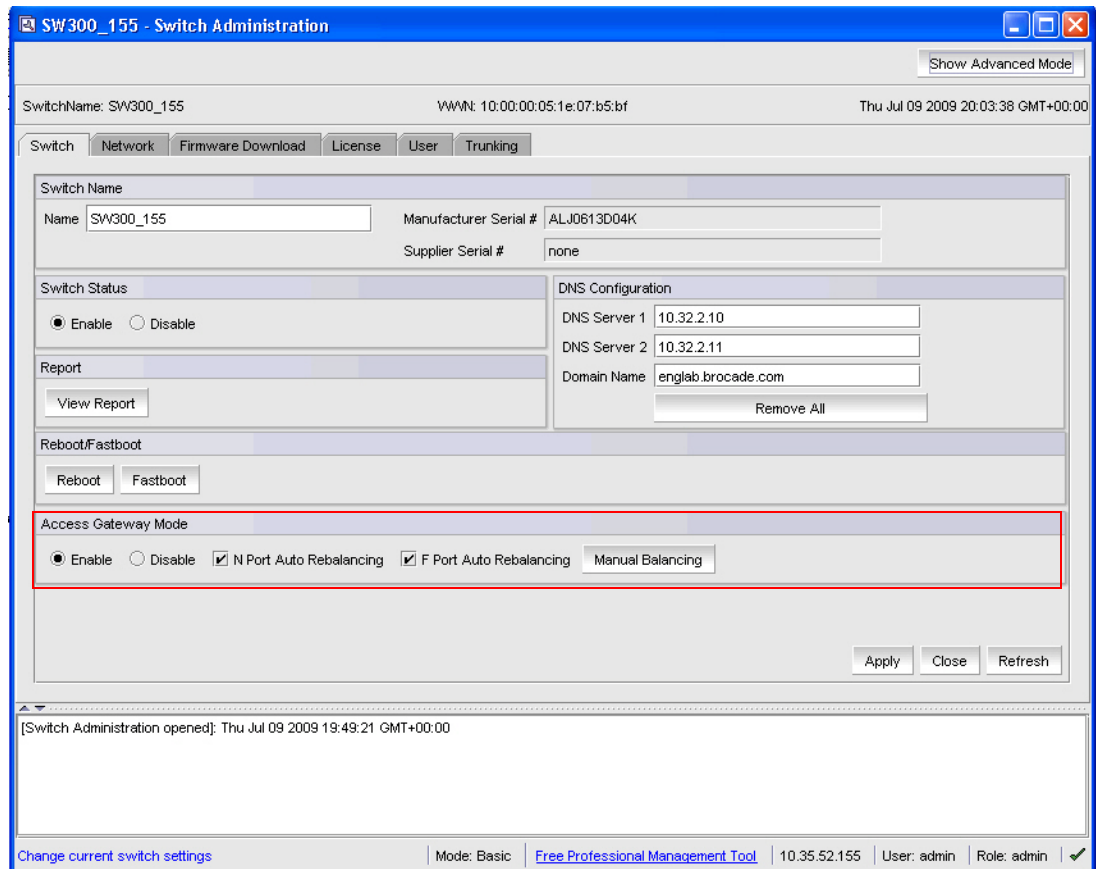

FIGURE 34 Access Gateway Auto Rebalancing
4. In the **Switch Explorer** window, click **Configure > Switch Admin**. The **Switch Administration** window displays (Figure 34).